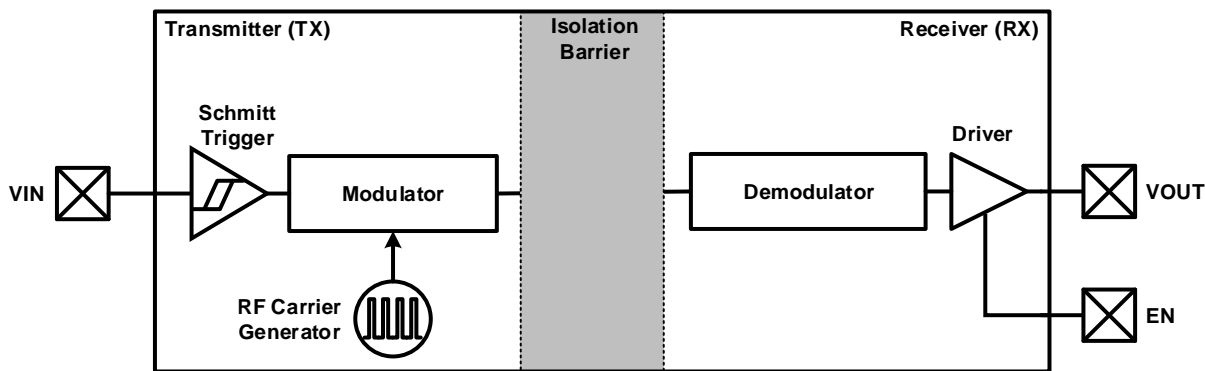
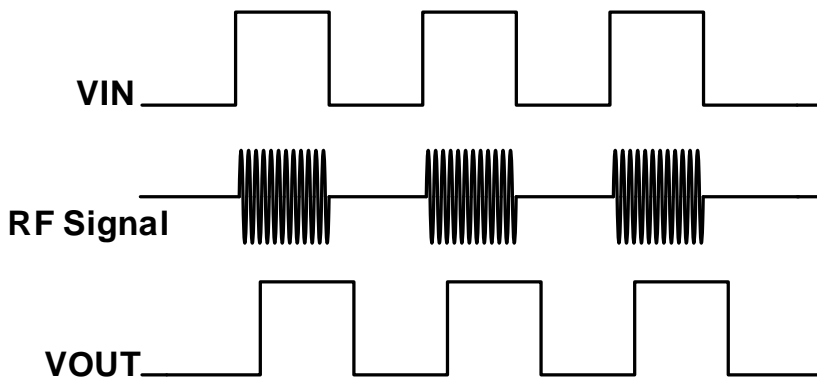

Figure 9-1 Functional Block Diagram of a Single Channel
Figure 9-2 Conceptual Operation Waveforms of a Single Channel
The CA-IS37xx family of devices use a simple ON-OFF keying (OOK) modulation scheme to transmit signal across the SiO₂ isolation capacitors that provide a robust insulation between two different voltage domain and act as a high frequency signal path between the input and the output. The transmitter (TX) modulates the input signal onto the carrier frequency, that is, TX delivers high frequency signal across the isolation barrier in one input state and delivers no signal across the barrier in the other input state. Then the receiver rebuilds the input signal according to the detected in-band energy. If the ENx pin is low then the output goes to high impedance state and will be pulled up to V_{DDO} (CA-IS374xH) or pull down to the corresponding GND (CA-IS374xL). This simple architecture offers a robust isolated data path and requires no special considerations or initialization at start-up. The capacitor-based signal path is fully differential to maximize noise immunity, which is also known as common-mode transient immunity. Advanced circuitry techniques are applied for better EMI introduced by the carrier signal and IO switching. The capacitively-coupled architecture provides much higher electromagnetic immunity compared to the inductively-coupled one. And OOK modulation scheme eliminates the missing-pulse error that occurs in the pulse modulation method. A simplified functional block diagram and conceptual operation waveforms of a single channel is shown in Figure 9-1 and Figure 9-2.